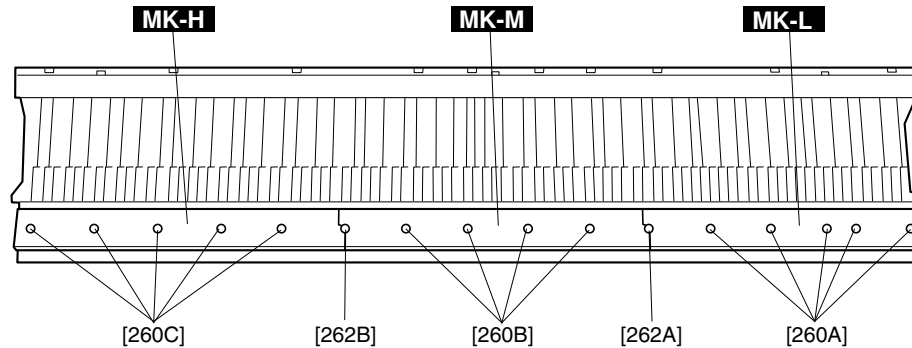

Fig. 17 (図 17)
Remove the five (5) screws marked [260A] and the screw marked [262A]. The MK-L circuit board can then be removed. (Fig. 17)
[260A] のネジ 5 本と [262A] のネジ 1 本を外し、MK-L シートを外します。(図 17)
Remove the four (4) screws marked [260B], the screw marked [262A] and the screw marked [262B]. The MK-M circuit board can then be removed. (Fig. 17)
[260B] のネジ 4 本、[262A] のネジ 1 本、[262B] のネジ 1 本を外し、MK-M シートを外します。(図 17)
Remove the five (5) screws marked [260C] and the screw marked [262B]. The MK-H circuit board can then be removed. (Fig. 17)
[260C] のネジ 5 本と [262B] のネジ 1 本を外し、MK-H シートを外します。(図 17)
Tighten the five (5) screws marked [260A] and the screw marked [262A] to fix the MK-L circuit board. (Fig. 17)
Tighten the four (4) screws marked [260B], the screw marked [262A] and the screw marked [262B] to fix the MK-M circuit board. (Fig. 17)
Tighten the five (5) screws marked [260C] and the screw marked [262B] to fix the MK-H circuit board. (Fig. 17)
MK-L シートを取り付け、[260A] のネジ 5 本と [262A] のネジ 1 本を取り付けます。(図 17)